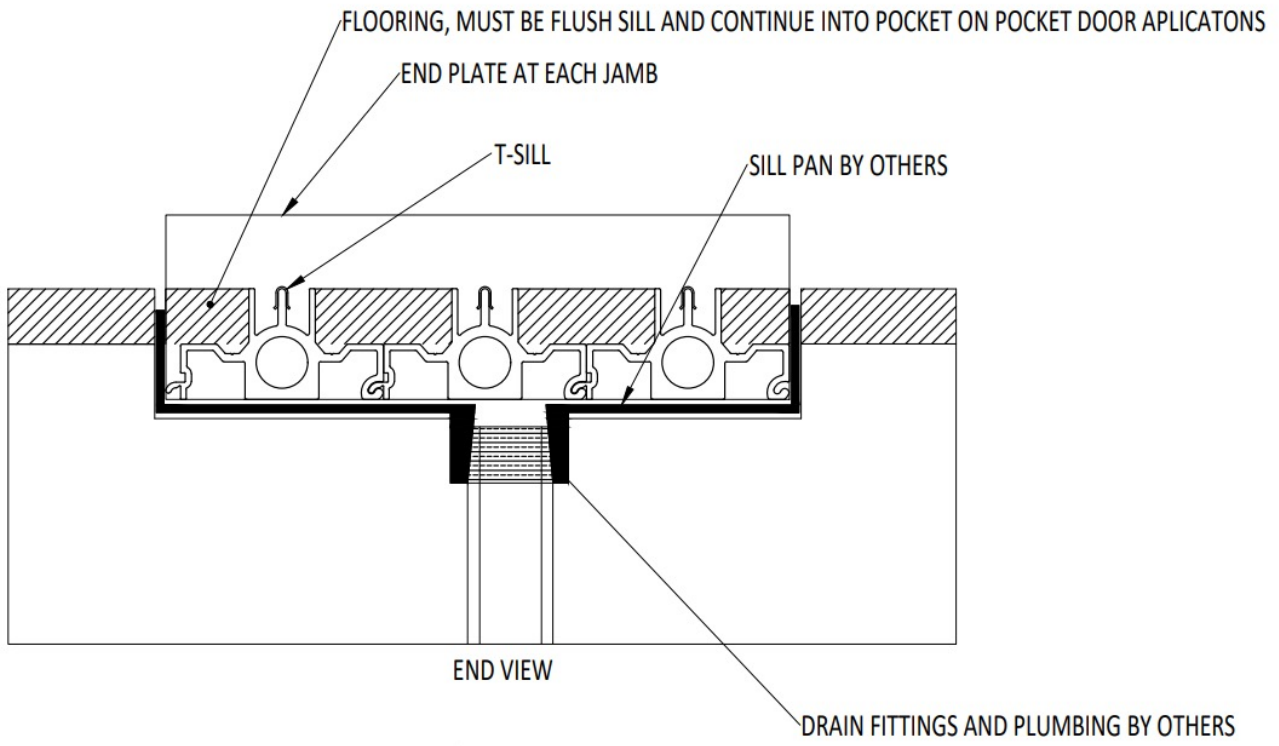

Figure 6
- Front Weep with pan and drain by others (See Figure 6).
- 8. Front Weep Sills** – Sills that have a weep slot located on the bottom surface 6" from each end and 6" from each stagger location will allow water to drain out the bottom of the sill directly into a water management system supplied by others, such as a sill pan or equivalent. (See Figure 6). If a slot drain or similar system is used, the door sill pan can be drained into the slot drain. Ensure that the slot drain bottom is adequately below the sill pan to ensure water only